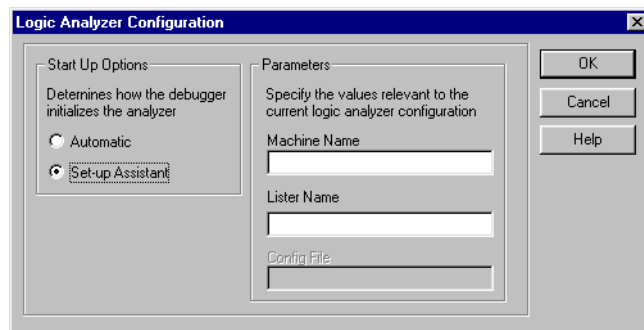

Figure 2-14 Gateway2 Logic Analyzer Configuration dialog
2. Click **Configuration** to display the Logic Analyzer Configuration dialog box shown in Figure 2-14.